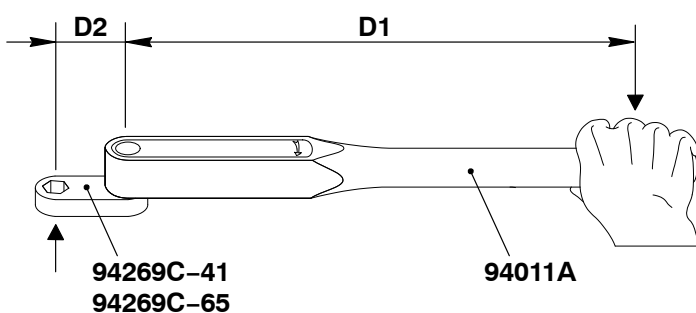

Fig. 8
- 1) Make sure that the sealing faces of the intermediate plate (6, Fig. 8) and the related faces in the injection valve (10):
**Note:** When you do the step below, make sure that the dowel pin (9) engages with the hole in the intermediate plate (6).
- 2) Put the nozzle body (3) together with the intermediate plate (6) in position on the injection valve (10).
- 3) Apply a thin layer of Never-Seez NBST-8 to the thread and seating face of the coupling nut (8).
- 4) Attach the coupling nut (8) to the nozzle body (3) with your hand.